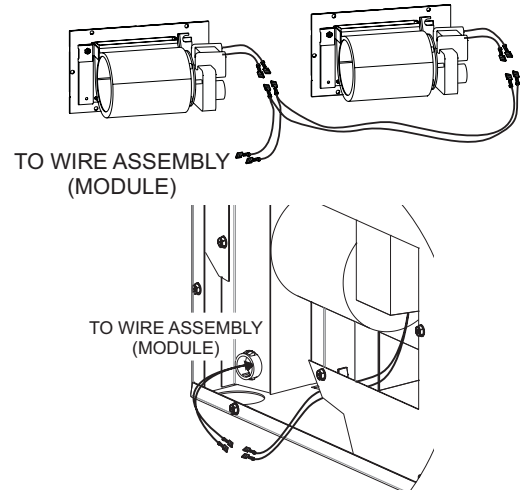

Figure 5
4. Remove protective connectors on Wire Assembly from fireplace and discard. Connect Wire Harness to both blowers and the other end to the Wire Assembly supplied with the fireplace. See Figure 5.